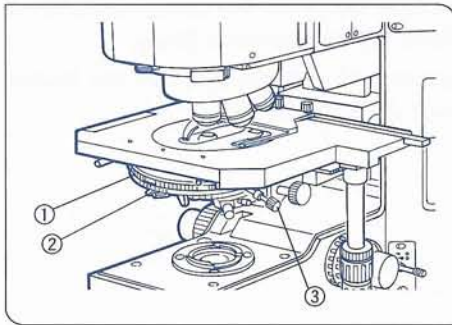

Fig. 42
(Figs. 42, 43, 44, 45)
1. Rotate the turret ①, to select the light path for BF brightfield observation (no optical element engaged into the light path).
4. Rotate the aperture iris diaphragm lever ② clockwise to open the aperture iris diaphragm.
5. Rotate the field iris diaphragm ring ③ to open the field iris diaphragm. (Fig. 42)
9. Gradually open the field iris diaphragm. Turn the condenser centering screw ③ to move the iris diaphragm image to the center of the field of view. (The condenser is properly centered if the iris image is centered and inscribed in the field of view.) (Fig. 42)